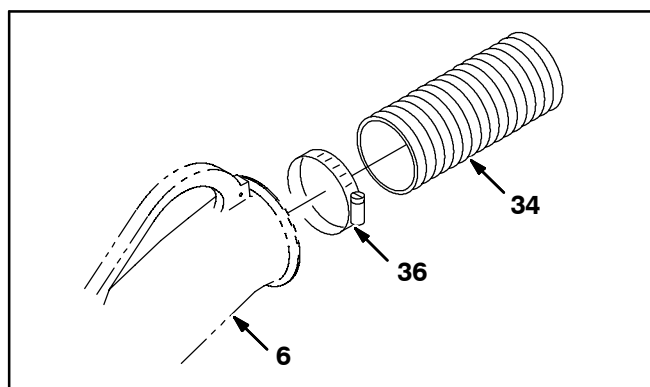

FIG. 11
15. Use a bridge clamp (36) to attach the other end of the 204L vacuum hose (34) to the wand tube (6). Refer to Fig. 11.